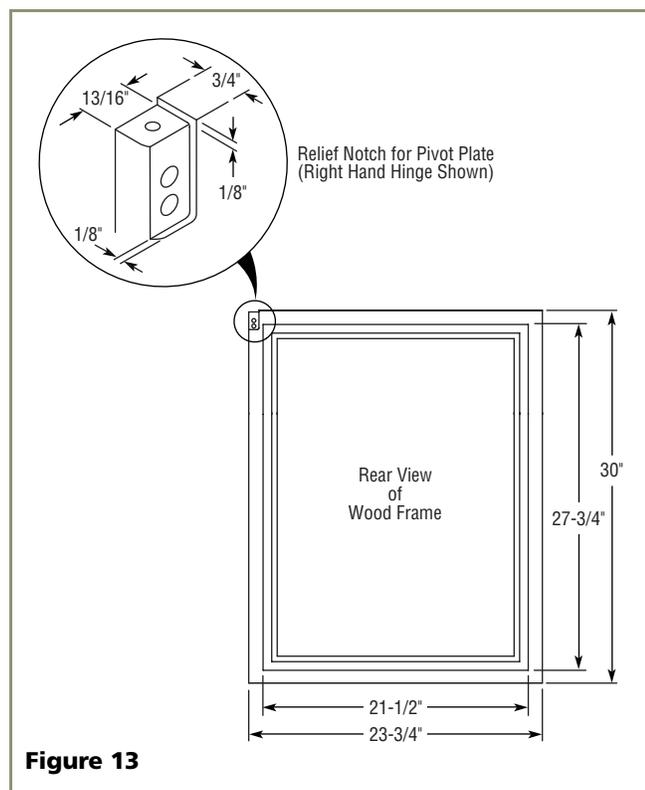

Figure 13
1. Create an overlay frame to the dimensions shown in **Figure 13**.